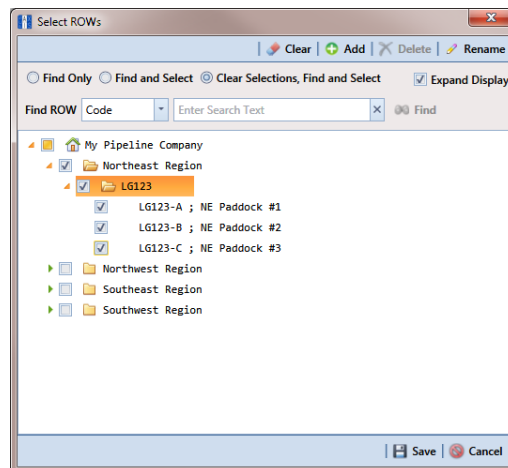

Figure 4-12. Select ROWs
- 1 Click the **Select ROWs** button  to open the *Select ROWs* window (Figure 4-12).
- Click the **Select ROWs** button  to open the *Select ROWs* window (Figure 4-12, page 151). Select one or more pipeline segments you want to work with by clicking the check box for each pipeline segment. Then click  **Save** to close the window.